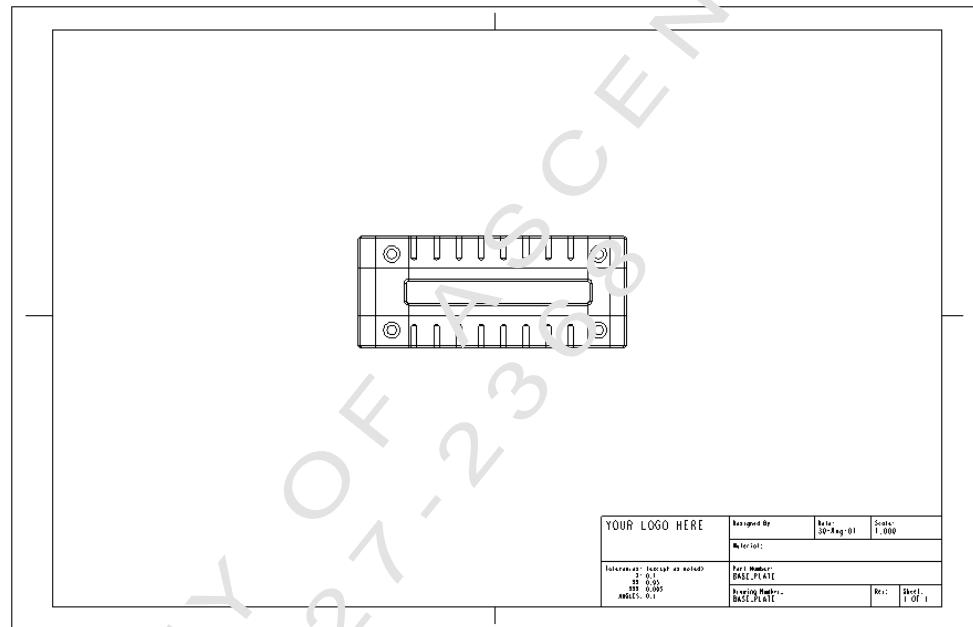

Figure 1–64
5. Click **Apply**. The view automatically orients itself as shown in Figure 1–64.